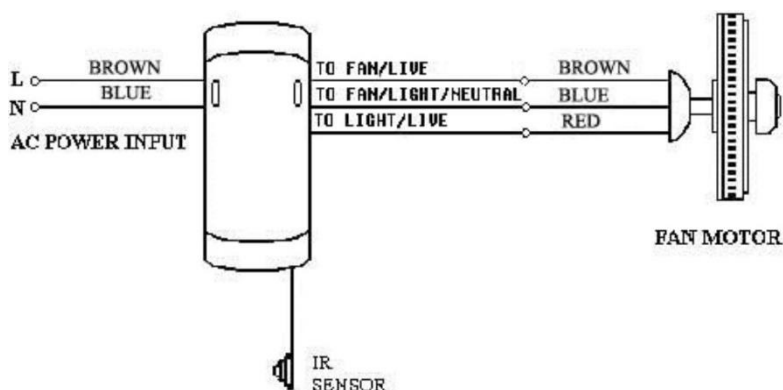
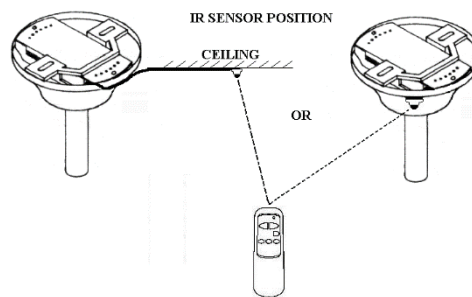

Fig. 1.1
Fig. 2
2. Make the wiring connection as shown in Fig. 1.1 and 1.2. The IR sensor must be stuck outside the canopy. Its position depends on IR receiving condition (Fig. 2).